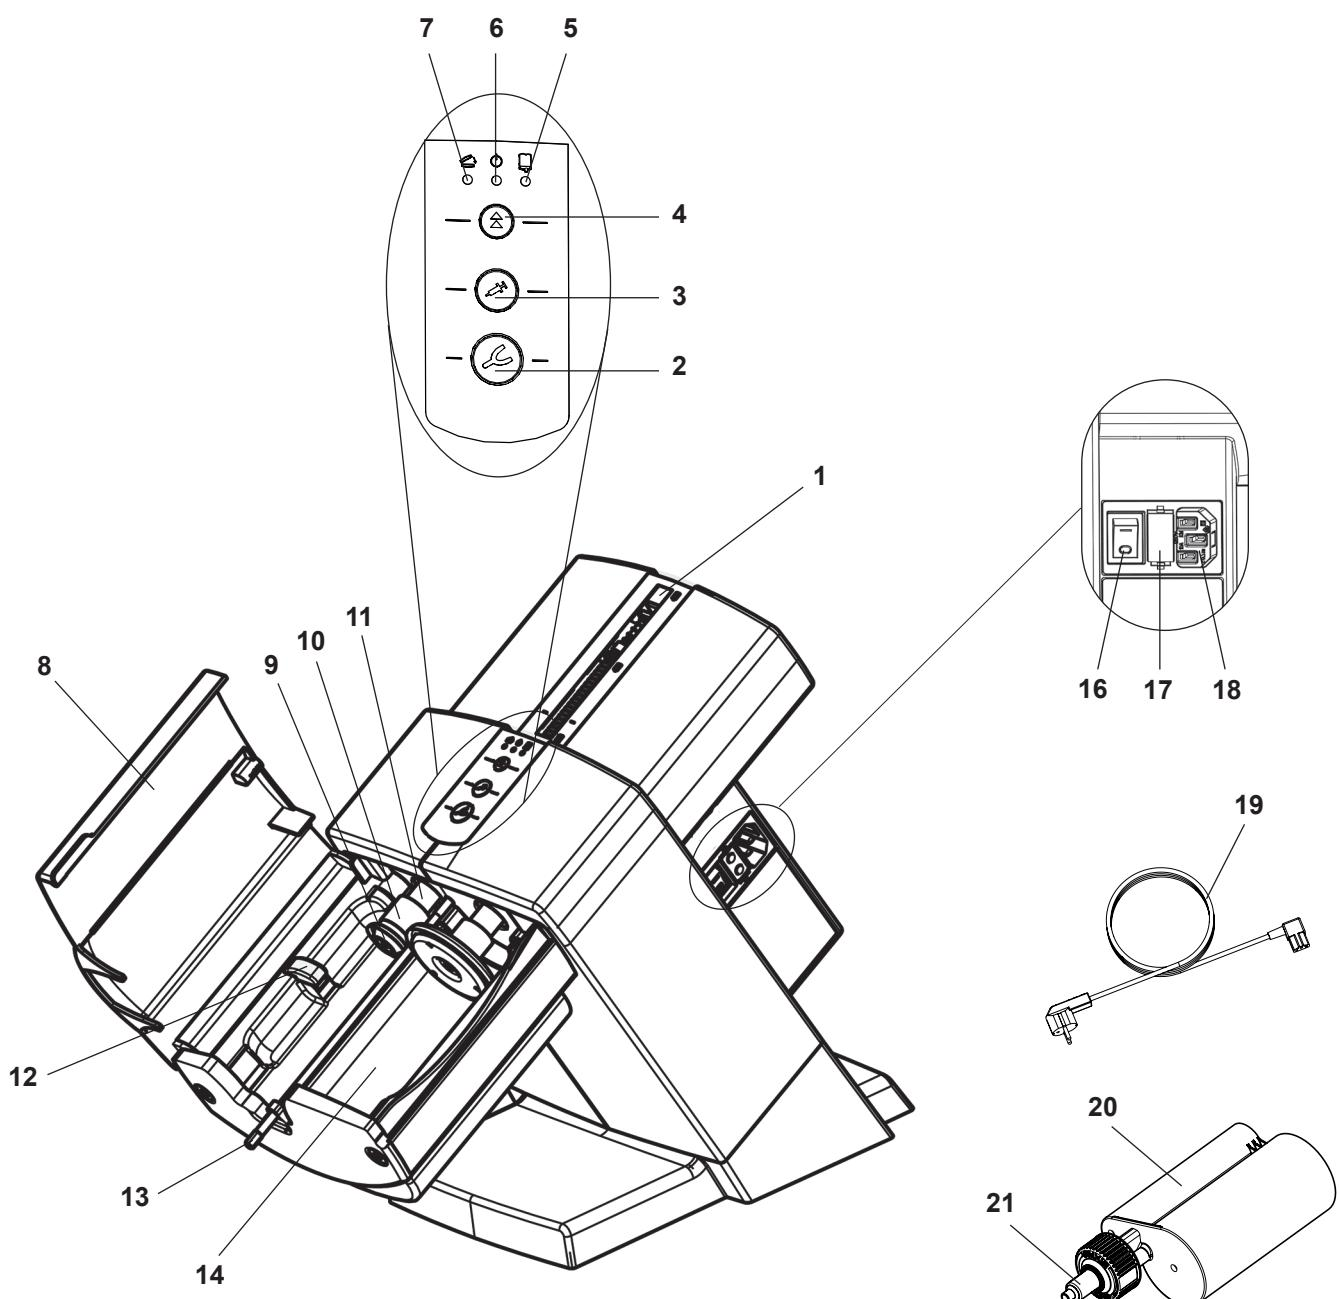

Fig. 1
- ⇒ Connect the provided power cord (19, Fig. 1) to the mains connection socket (18).
- ⇒ Switch the unit on at the mains power switch (16).
- ⇒ Close the unit cover (8, Fig. 1).
- ⇒ Press the retract key (4).
- ♦ The pressure plates (9, Fig. 1) retract to their home position where they stop.
- ⇒ Remove the shipping restraint (23).
A cartridge can only be installed or replaced if both pressure plates (9, Fig. 1) are in their home position.
⇒ Close the unit cover (8, Fig. 1).
⇒ Open the unit cover (8, Fig. 1).
The cover will only close if the cartridge has been properly installed. The red "Equipment cover" LED will remain on until the cover has been properly closed (7, Fig. 1).
- Dispenser (3), slow extrusion speed
- ◆ The mixer shaft (13, Fig. 1) starts to turn and threads its way automatically into the mixing nozzle (21, Fig. 1), where it stops.